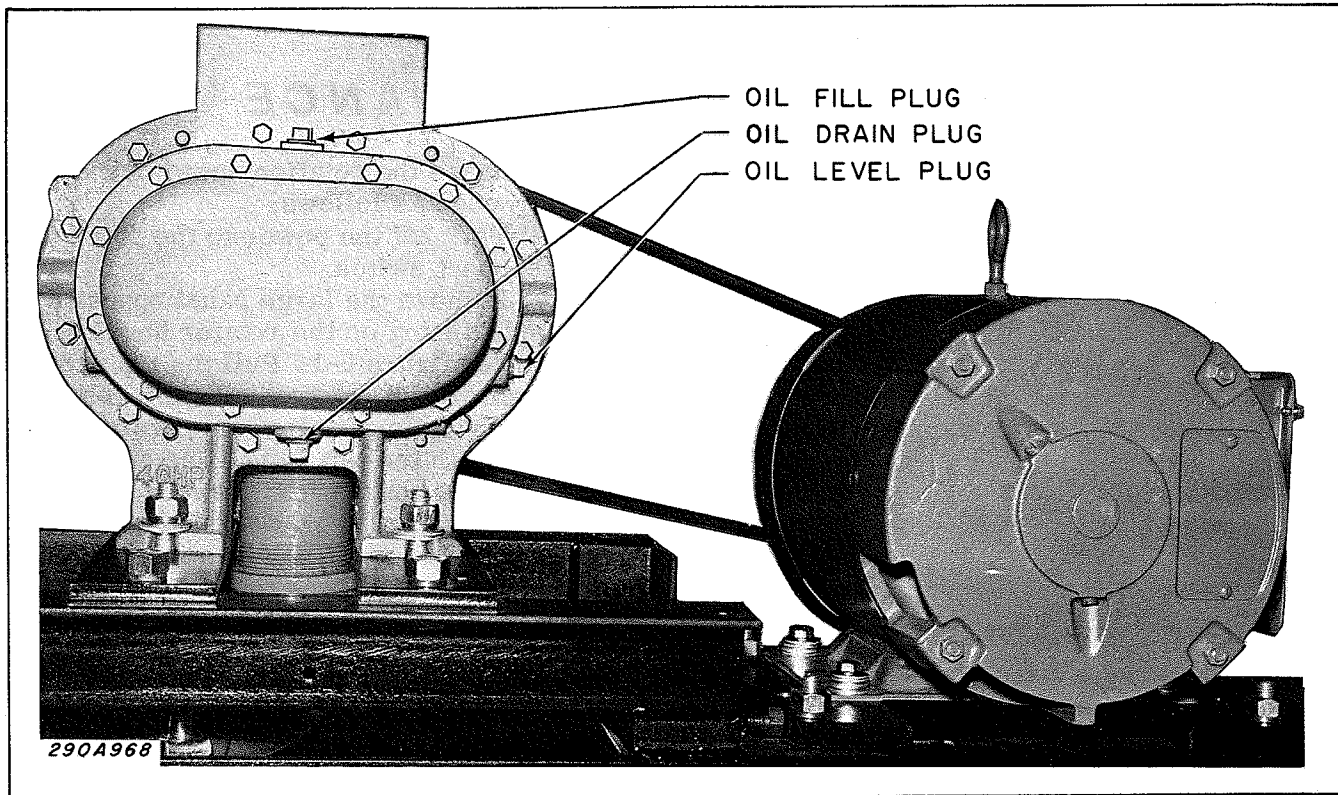

Figure 5-3. Blower Lubrication.
1. Blower Assembly (figure 5-3)